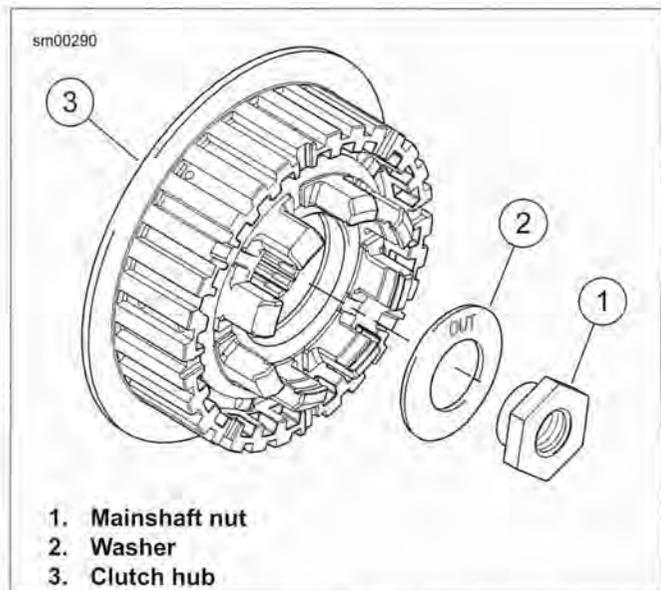

Figure 5-36. Mainshaft Nut and Washer
See Figure 5-36. Washer (2) must be installed with the word "out" facing the transmission mainshaft nut (1). Incorrect assembly can result in clutch and/or transmission failure.
5. See Figure 5-36. Apply two or three drops of LOCTITE 262 (red) onto threads on end of transmission mainshaft. Install spring washer (2) and mainshaft nut (1) (left-hand threads) on transmission mainshaft. Tighten nut to 50-60 ft-lbs (67.8-81.3 Nm).